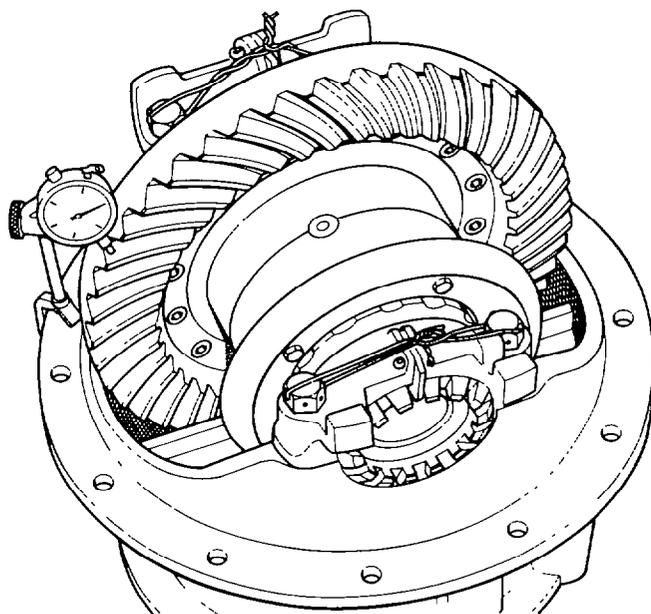

Fig. 362 — Measuring Crownwheel with Dial Indication
- i. To adjust the backlash loosen the bearing adjuster on the back-face of the crownwheel one notch. Tighten the adjuster on the teeth-side of the crownwheel until it contacts the bearing cup. Contact is felt in the form of increased resistance to adjuster movement. Continue to tighten the same adjuster two or three notches, mount a dial indicator on the carrier as shown in fig. 362. The backlash should be between 0.152 – 0.406 mm (0.006 – 0.016 in.). Adjust the bearing adjusters to obtain the correct backlash.